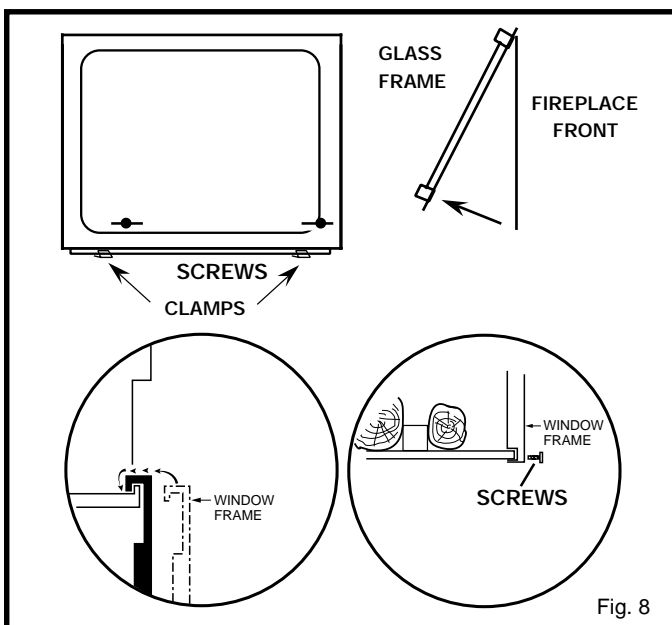

Fig. 8
6. Swing lower portion of door out from the fireplace and gently lift up to disengage top of door from fireplace. See Fig. 8.